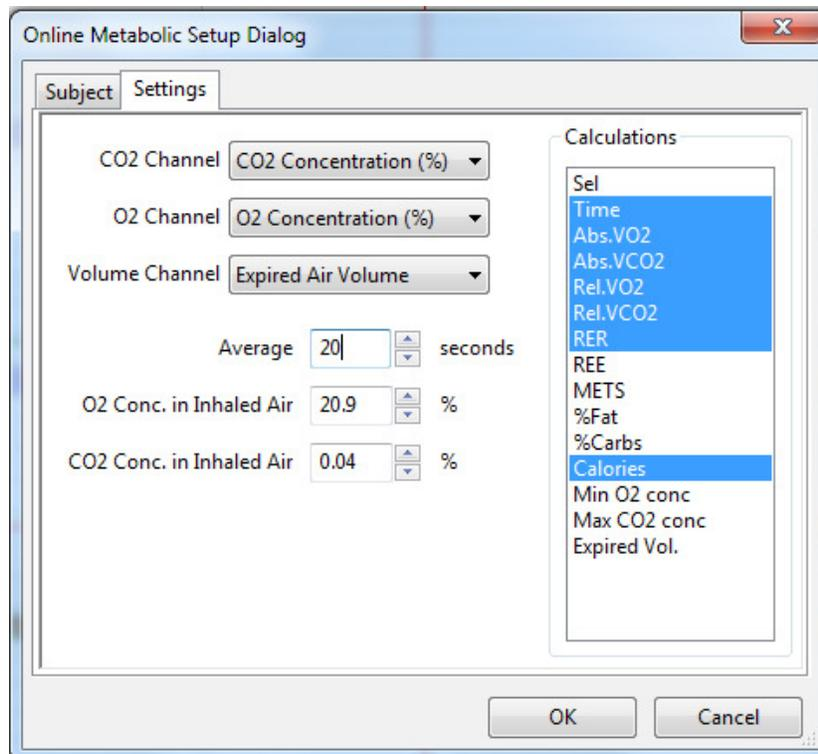

Figure HE-4-S9: Settings dialog of the Online Metabolic Setup window.
4. Perform the Quick Flow Calibration by clicking the button and following the prompted directions (Figure HE-4-S10).